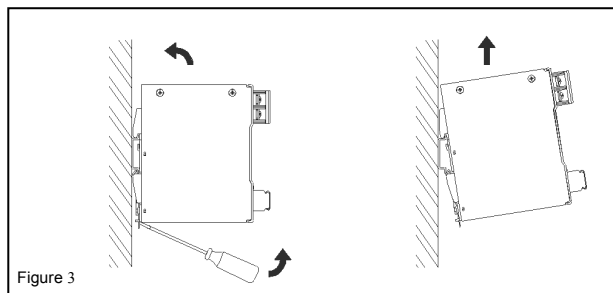

Figure 3
4. Removal (Fig. 3)
To uninstall, pull or slide down the latch as shown in Fig. 3. Then, slide the PSU in the opposite direction, release the latch and pull out the PSU from the rail.